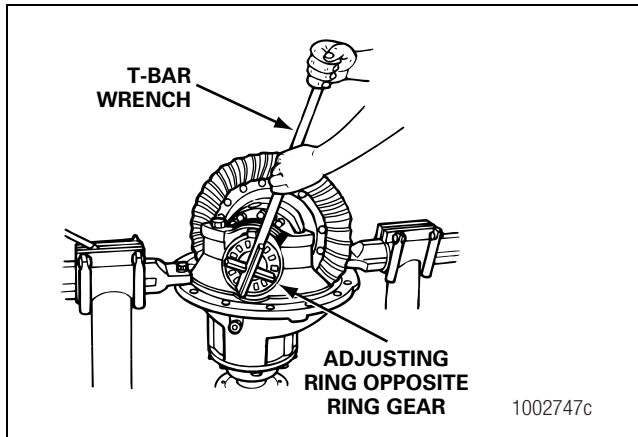

Figure 3.44
4. Use a T-bar wrench or equivalent tool to loosen the adjusting rings. Do not remove the adjusting rings. If necessary, loosen, but do not remove, the capscrews on the bearing caps to move the adjusting rings. Figure 3.44.